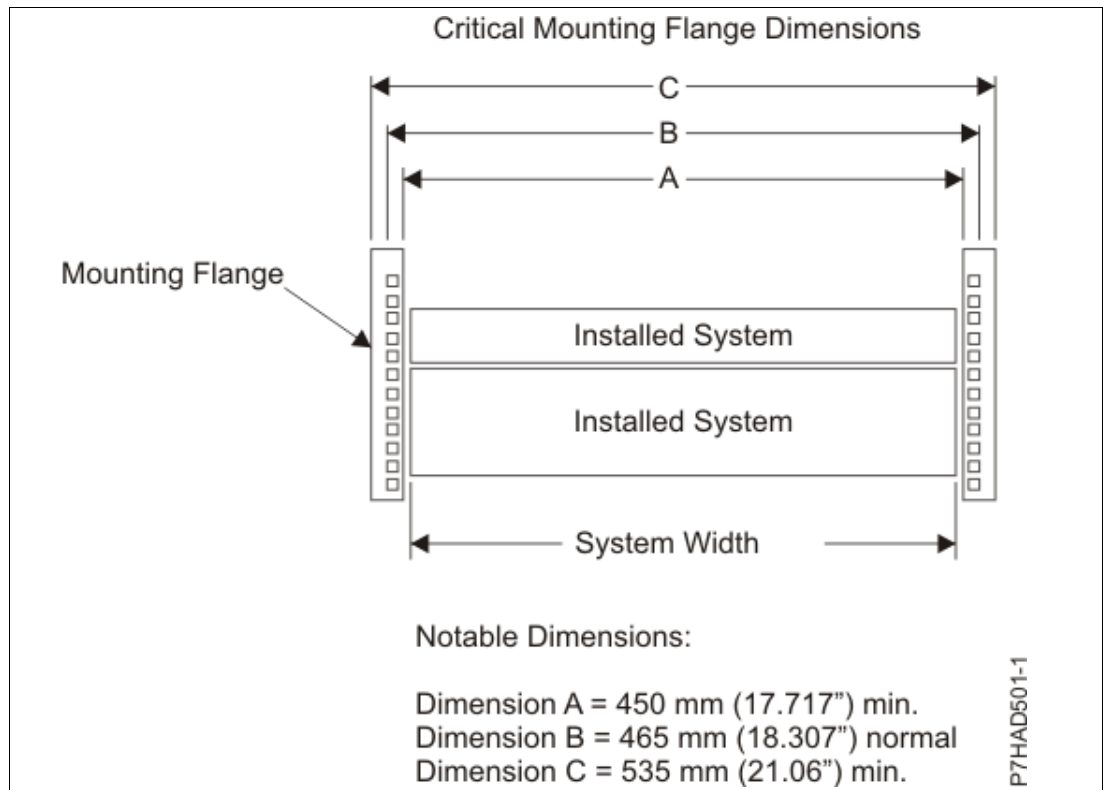

Figure 3-16 Mounting flange dimensions
- The rail-mounting holes must be $465 \text{ mm} \pm 0.8 \text{ mm}$ ($18.3 \text{ in.} \pm 0.03 \text{ in.}$) apart on-center (horizontal width between the vertical columns of holes on the two front-mounting flanges and on the two rear-mounting flanges), as shown in Figure 3-16.